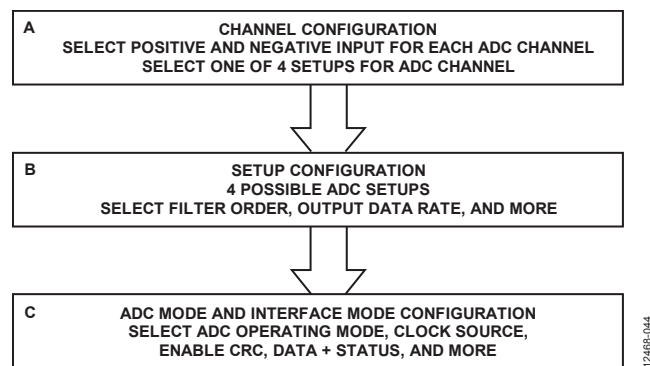

Figure 48. Suggested ADC Configuration Flow
Figure 48 shows an overview of the suggested flow for changing the ADC configuration, divided into the following three blocks:
- Channel configuration (see Box A in Figure 48)
- Setup configuration (see Box B in Figure 48)
- ADC mode and interface mode configuration (see Box C in Figure 48)